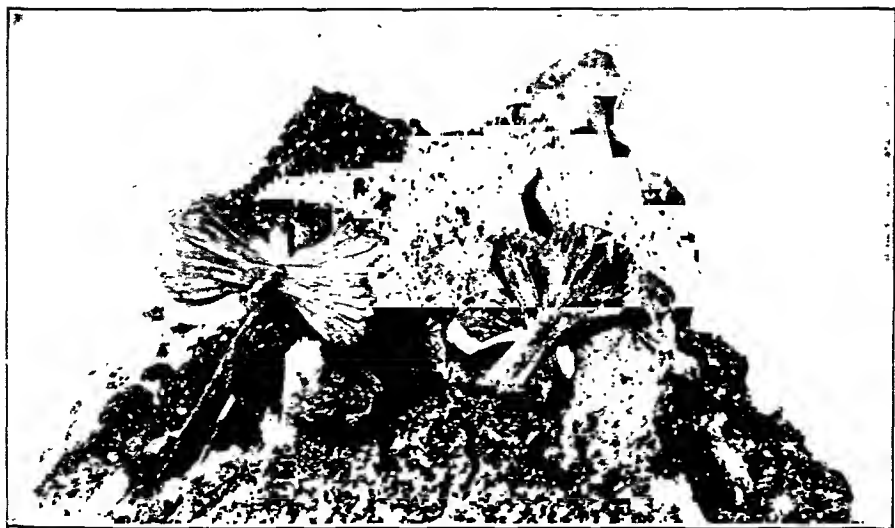

Figure 248. Stilbite, Sheaf-like Group of Crystals, Upper Montclair, New Jersey
**Stilbite** has the same *hardness* as heulandite, 3.5 to 4, the same pearly and vitreous *luster*, the same *cleavage*, and sometimes much resembles it. It is very different, however, in its most characteristic form, a double sheaf, as shown in figure 248. Though often of white *color*, it is frequently grayish-brown. Its occurrences are identical with heulandite.